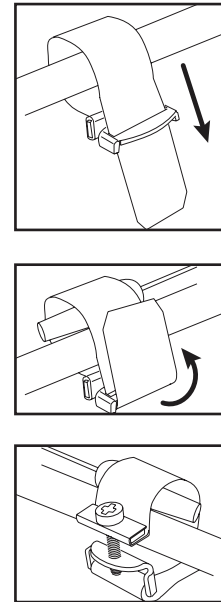

Figure 4
8. After completing the brazing operation, allow the lines to cool. Reuse the existing bulb clip or use supplied bulb strap to attach bulb to gas manifold. See Figure 4 for instructions on attaching the bulb strap. In some cases, the bulb strap may be required if the new bulb size is different from the bulb being replaced.